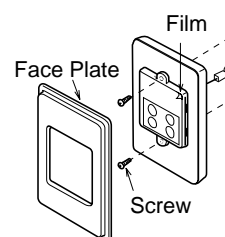

Fig. 4
6. Fix the water controller to the wall using the appropriate fixings as shown in Fig. 4.
7. Remove protective film from the water controller face as shown in Fig. 4 and replace face plate.